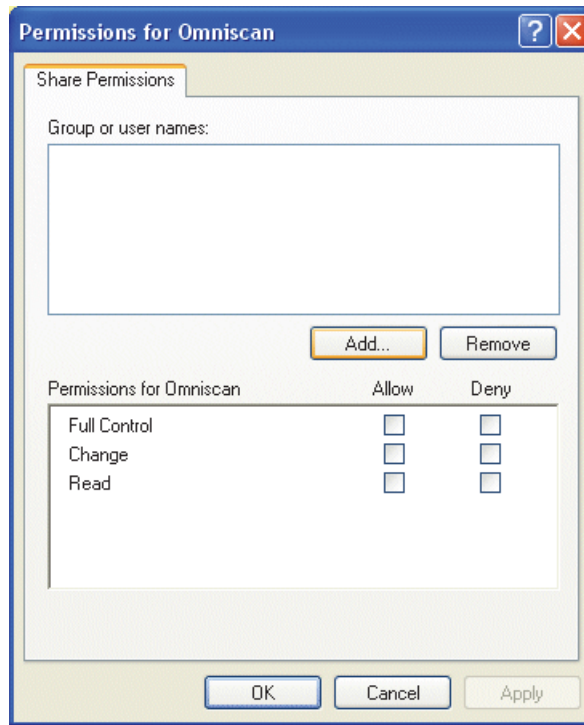

Figure 7-15 The Permissions for Omniscan dialog box (Windows XP)
7. In the **Permissions for Omniscan** dialog box, click **Add** (see Figure 7-15 on page 205).